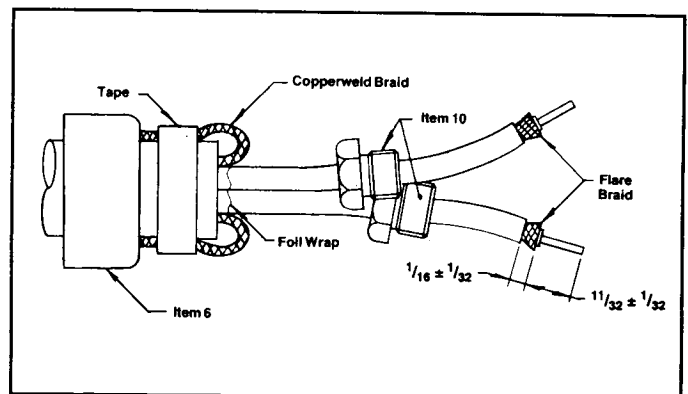

Figure 2
Remove foil to allow a maximum 1/16 inch of foil wrap to extend from the copperweld braid and trim the cable filler to the same length as the braid. Comb out cable filler, splaying out and folding back equally over copper-weld braid and tape down. The braid retaining ferrule (item 6) will help hold the braid and fillers during taping operations. (Figure 2)
3. Slide one nut (item 10) over each cable and push back out of the way. Trim the two cables to the dimensions shown being careful not to nick outer conductors or braid. Pre-tin center conductors using 60/40 solder. Use this type of solder for any other soldering required. Flare braids in preparation for the next operation. (Figure 2)